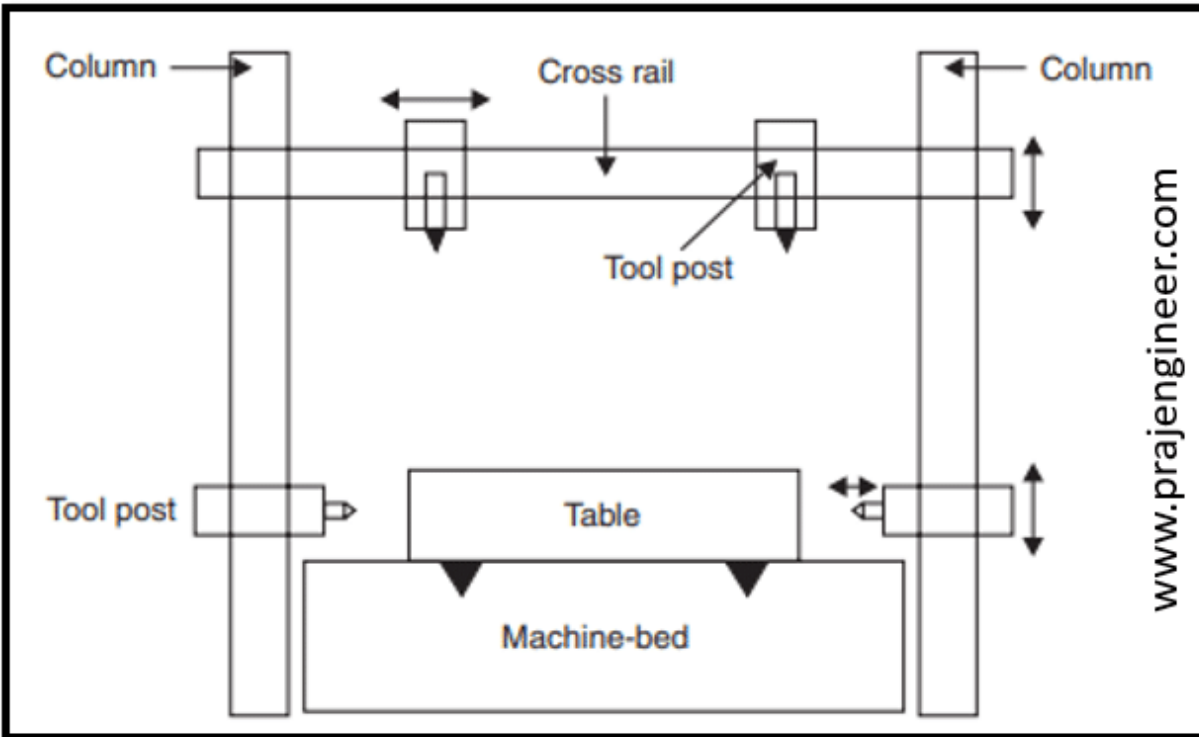

Fig. 5 Planer machine diagram
- Two vertical columns, one on each side of the bed and table are located as shown in Fig. 5.